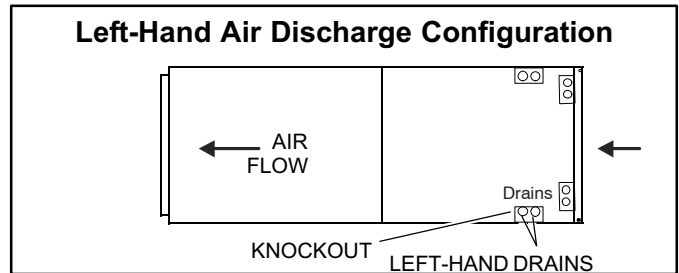

Figure 3
5. The horizontal configuration is shown in figure 3.